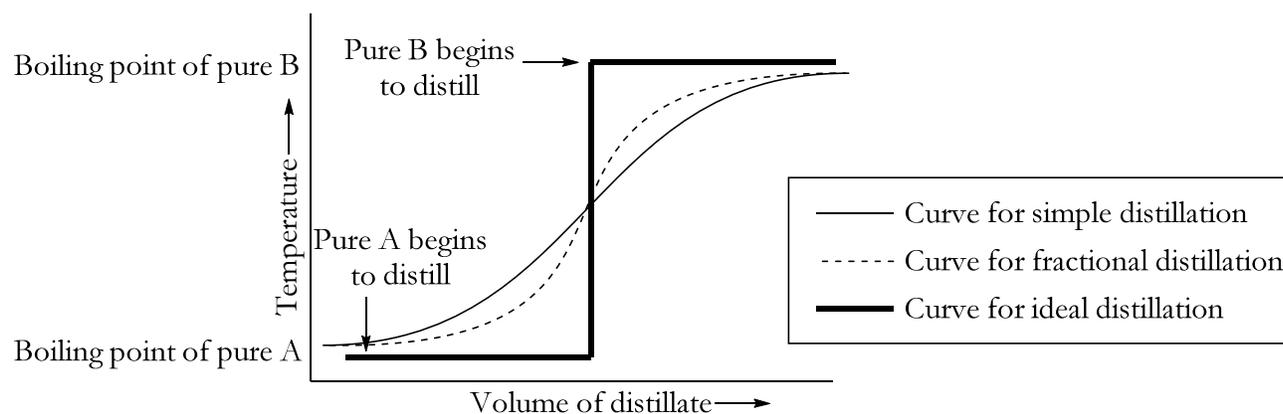

Figure 8-1: Curves for simple, fractional and ideal distillation.
If a perfect separation of two components **A** and **B** is achieved during a distillation, a plot of temperature vs. volume of condensate looks like the ideal curve in Figure 8-1.
- Input your data for both simple and fractional distillation into a spreadsheet program like Excel and use it to generate a graph of temperature *vs.* volume, similar to that shown in Figure 8-1. Add to the graph the ideal curve expected for a mixture of acetone and ethyl acetate (you will have to make up data points that match where you would expect the ideal curve to lie, for this mixture of